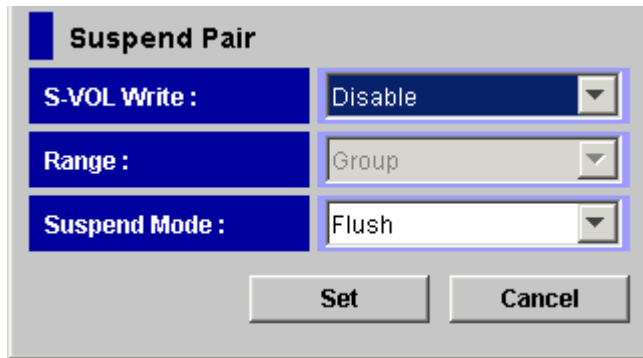

Figure 6-6 Suspend Pair Window
- In the tree, select a master journal group (M) or a restore journal group (R) from below Registered.
- In the tree, select **Subsystem** or **Registered** and then select a master journal group (M) or a restore journal group (R) from the list to the right. The list displays a list of mirrors. One row in the list represents one mirror.
7. In the Suspend Pair window (Figure 6-6), specify parameters and then select Set.